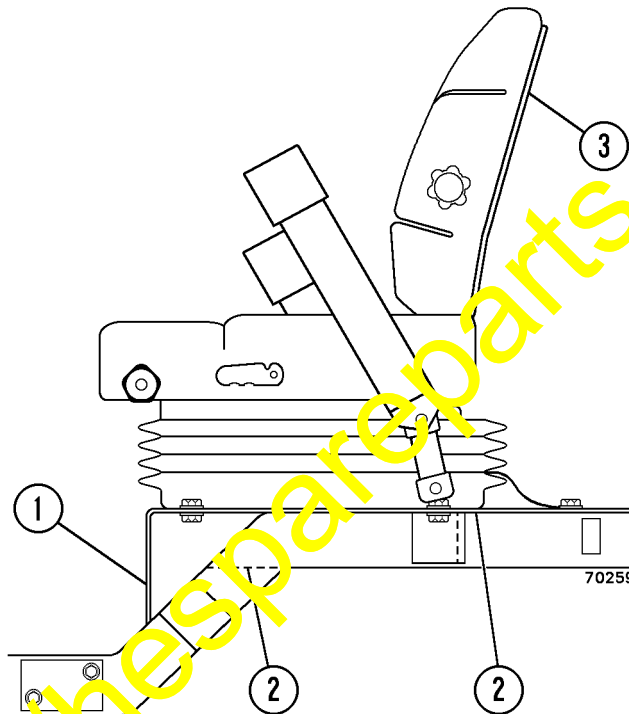

Figure 2. General Overview of Required Modifications
*NOTE: This installation requires significant cutting and welding operations to the cab floor. **Take all necessary precautions to prevent a fire during cutting and welding operations.** To install the new seat, the floor has to be lowered approximately 3 inches to allow for the full range of seat height adjustments. Refer to Figure 2 for an overview of required cab floor modifications. No other cab, electrical or plumbing changes are required.*